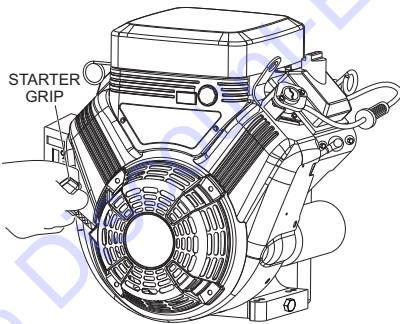

**Figure 15. Engine ON/OFF Switch (Electric Start)**
- Place the ignition key (Figure 15) in the **START** position and hold it until the engine starts. When the engine starts, release the key, allowing it to return back to the **ON** position.